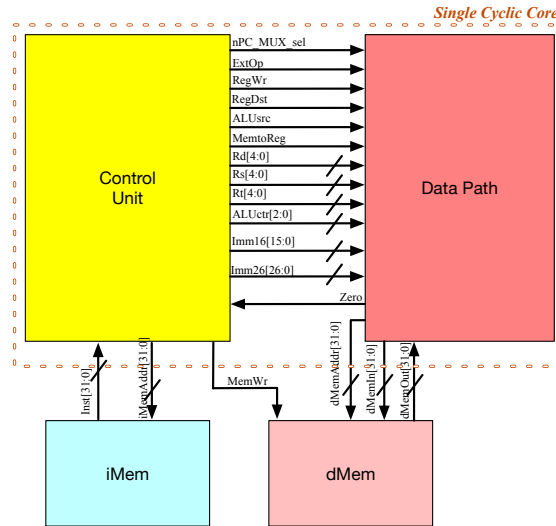

Figure 2: Single Cyclic CPU Block Diagram
**Two Module classes are recommended for Control Unit and Data Path Unit respectively**, as shown in following Fig. 2. Although the Harvard structure is adopted now to simplify the memory control and initialization, a MIPS adaptive memory model (Princeton Structure) is mandatory in further MIPS program test (for Multi-cyclic CPU Lab). In Fig. 2, almost all signals